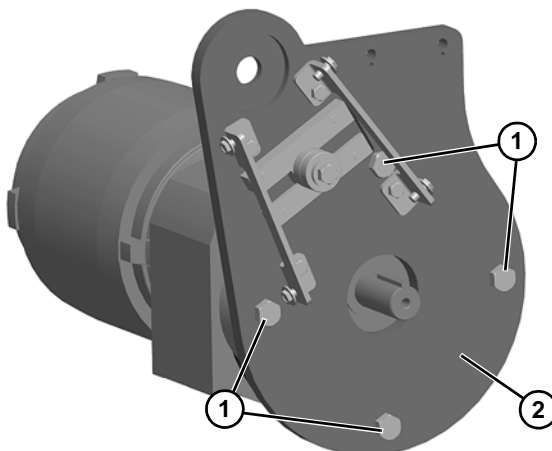

Figure 23
7. Remove four screws (**Figure 23, item 1**) and drive mounting plate (**Figure 23, item 2**).